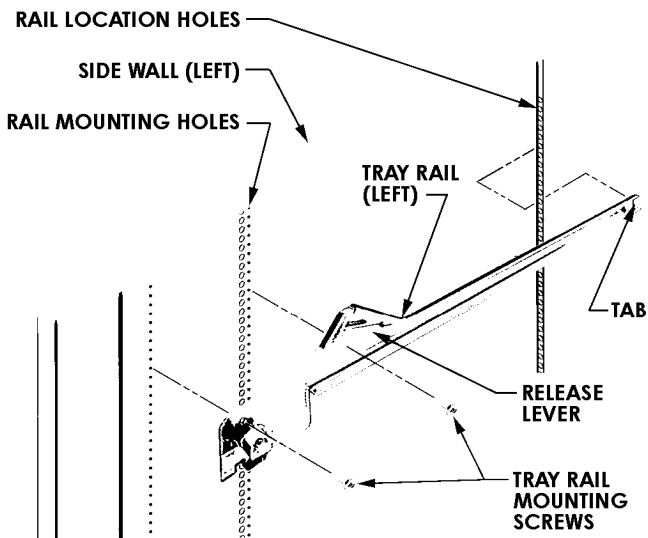

Figure 5. Tray Rails
- b. Pull each rail forward to disengage its rear tab from the hole in the rear wall. See Figure 5.